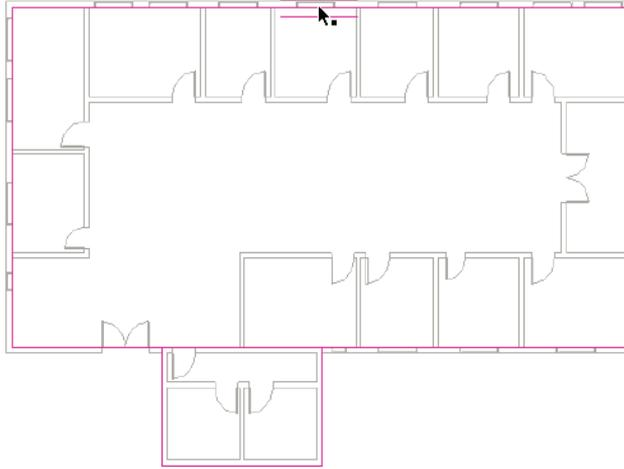

Figure 3-88 The floor boundary sketched using the **Pick Walls** tool
- g. Create the floor using the **Floor** tool, refer to Figures 3-88 through 3-90.
- Repeat the procedure followed in steps 3 and 4 and sketch the boundary of the floor on other walls, as shown in Figure 3-88.